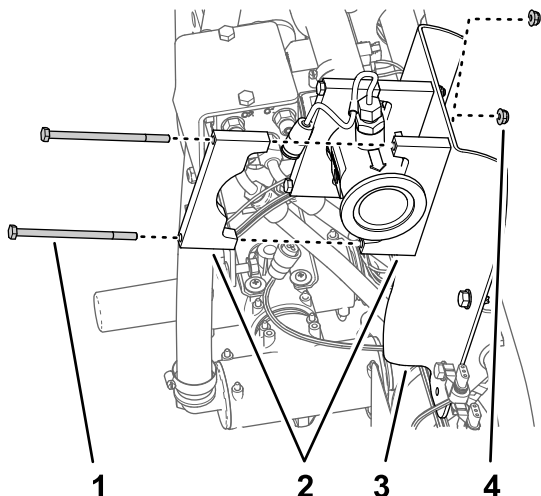

Figure 75
3. Align a 2 support-clamp halves between the flow meter and the flow-meter bracket, and align the holes in the clamp halves with the holes in the bracket (Figure 75).
4. Align a support clamp half at the rear side of the flow meter with 1 of the clamp halves that you assembled in step 3 (Figure 75).
5. Assemble the pair of clamp halves to the flow meter bracket (Figure 75) with 2 bolts (1/4 x 4-1/2 inches) and 2 flange locknuts (1/4 inch).